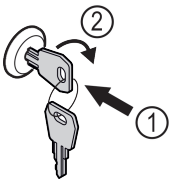

Fig. 90 Example illustration
- ▶ Insert key Fig. 90 (1).
- ▶ Turn key clockwise by 90° Fig. 90 (2).